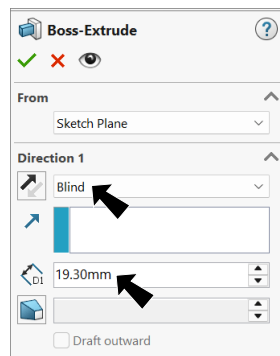

**Fig. 2**
Step 4. Sketch **center rectangle at the Origin** , **Fig. 2**.
Step 5. Click **Smart Dimension**  (S) on the Sketch toolbar.
Step 6. Add dimensions, **Fig. 2**.